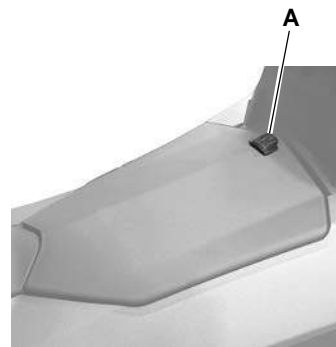

Fig. 7
- Open the door (A - Fig.7) in front of the seat.